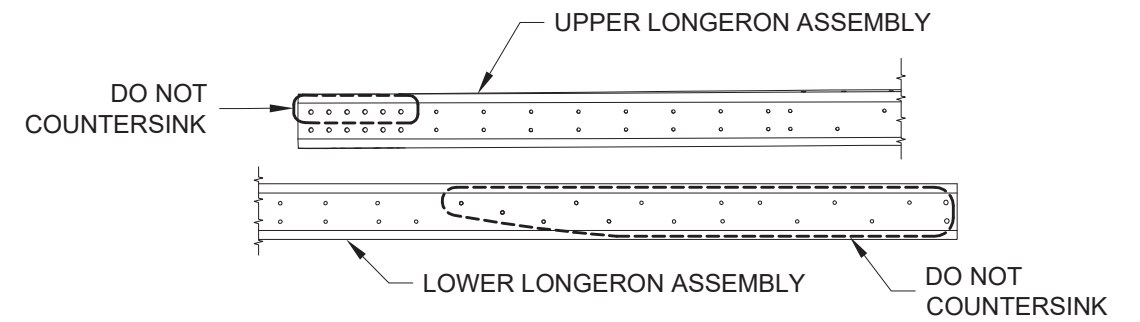

FIGURE 4: LONGERON COUNTERSINKING EXCEPTIONS
Step 8: Machine Countersink the outboard holes in the Upper and Lower Longeron Assemblies to accept the dimpled holes in the side skins. See Figure 4 for exceptions.